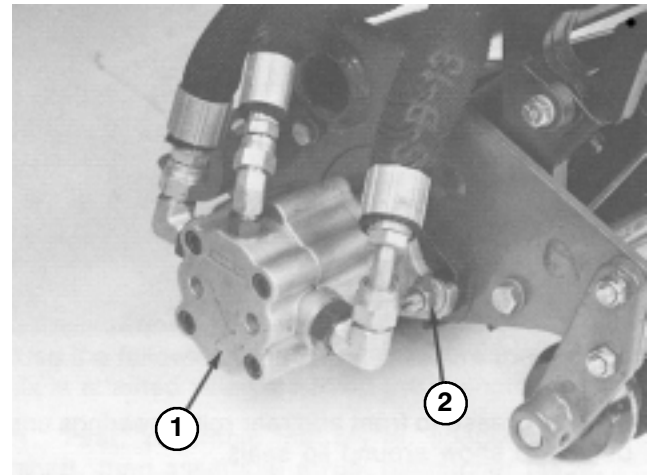

Figure 7
4. Assemble the mounting capscrews, lockwashers and washers for the reel drive motor to each dethatching unit (Fig. 7). Leave approximately 1/2" of threads exposed on each mounting bolt.